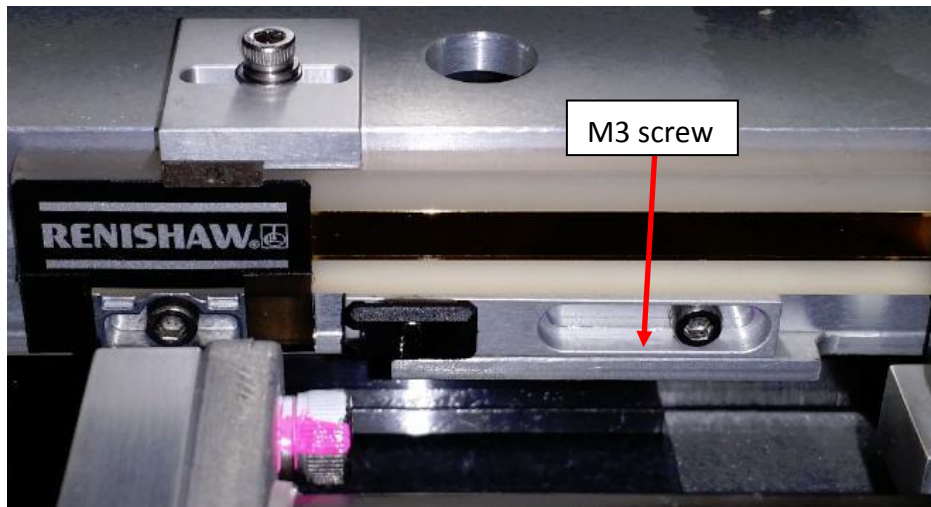

Figure 8 Y-axis Home Sensor M3 Screw
8. Loosen the M3 screw as shown below in the Figure 8.
10. Once home sensor adjustment complete, tighten M3 screw as shown in Figure 8.